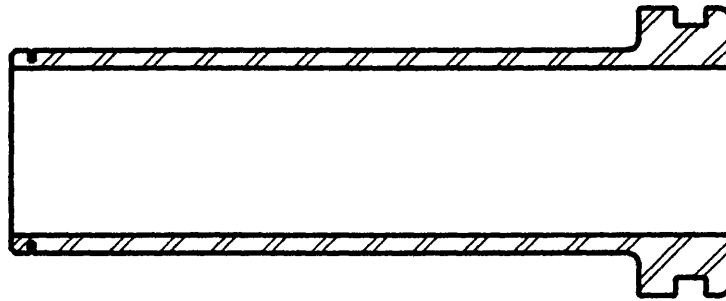
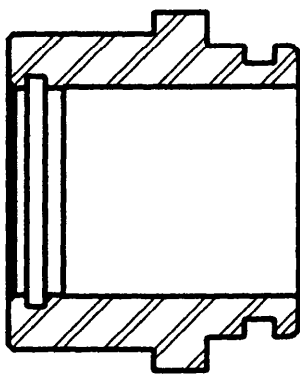

FIG 1
FIG 2
- 2.1 Thoroughly grease O-rings, backup rings, slip tubes (Fig 1) and slip rings (Fig 2) with lithium moly disulfide, Chiksan #7, or equal.